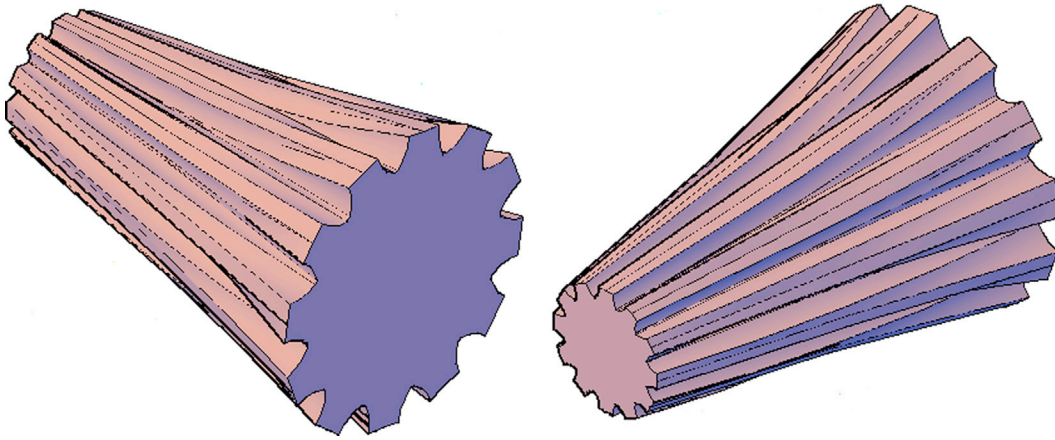

FIGURE 24.33 Drill bit, Step 5.
- Step 5.** Finally, you are ready to execute loft. Fig. 24.33 shows the result.